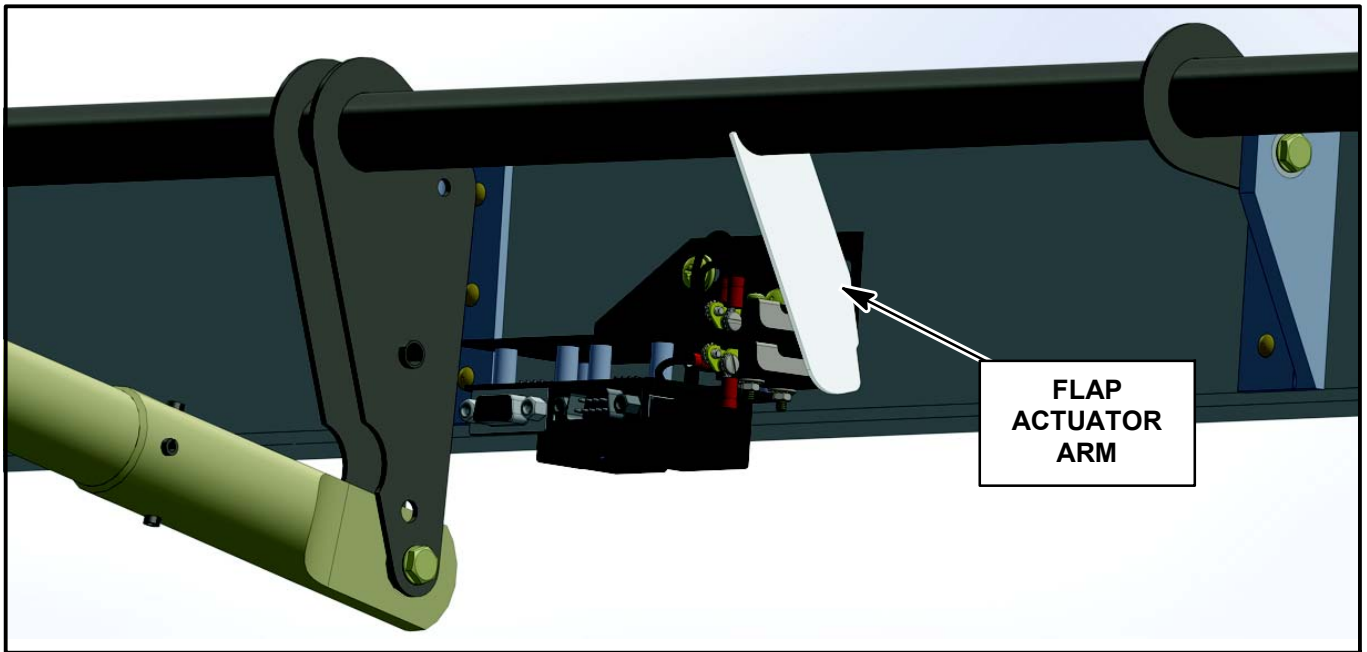

Figure SIM20-142-01 - FLAP ACTUATOR ARM
- 1.3. From under aircraft, locate flap preselect assembly. (Refer to Figure SIM20-142-01.)